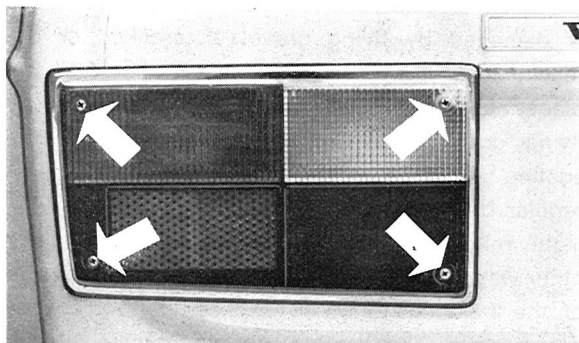

Fig. 3-111. Removing glass, rear tail light lens
1. Screw loose the four screws holding the glass, see Fig. 3-111 and lift off the glass.